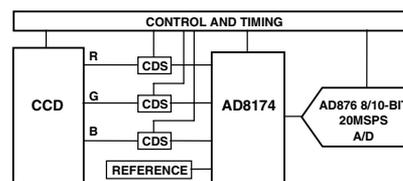

Figure 6. Color image scanning.
**Color Image Scanner:** Charge-coupled devices (CCDs) find widespread use in scanner applications. A monochrome CCD delivers a serial stream of voltage levels; each level is proportional to the light shining on a single cell of the CCD. For the color image scanner shown in Figure 6, there are three output streams, representing red, green and blue. Interlaced with the stream of voltage levels is a voltage representing the reset level. A correlated double sampler (CDS) subtracts these two voltages from each other.